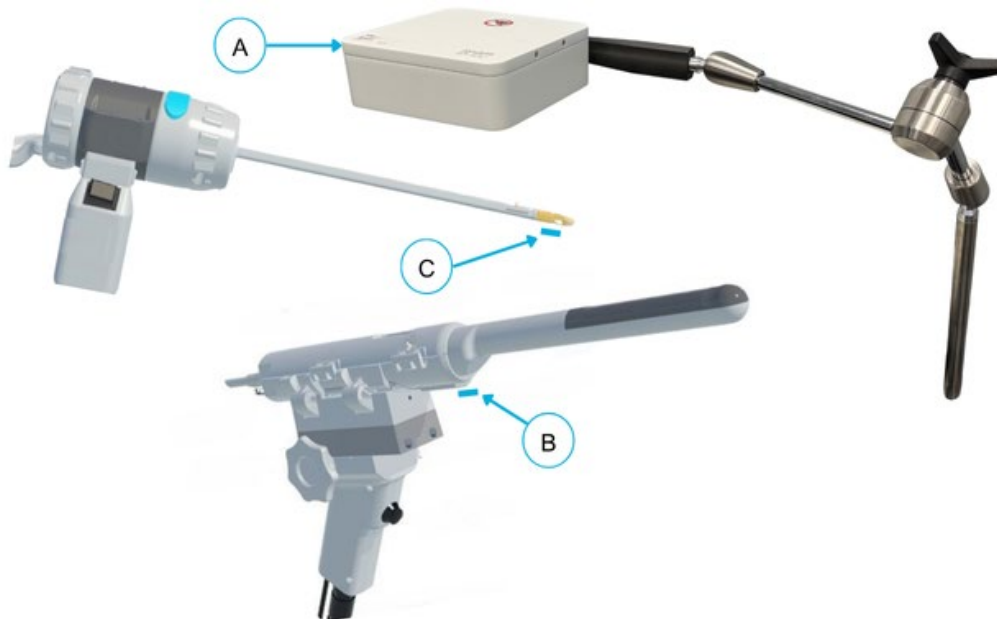

Figure 12-2: Field Generator, TRUS, and Delivery Device Sensors
■ **NOTE:** The Field Generator (A) tracks positioning sensors on the Delivery Device (C) and TRUS Cradle (B) (Figure 12-2).
■ **NOTE:** Sensors (B, C) (Figure 12-2) must be within the tracking volume—50 cm x 50 cm x 50 cm (20 in x 20 in x 20 in) - to be located and their avatars displayed on the monitor.